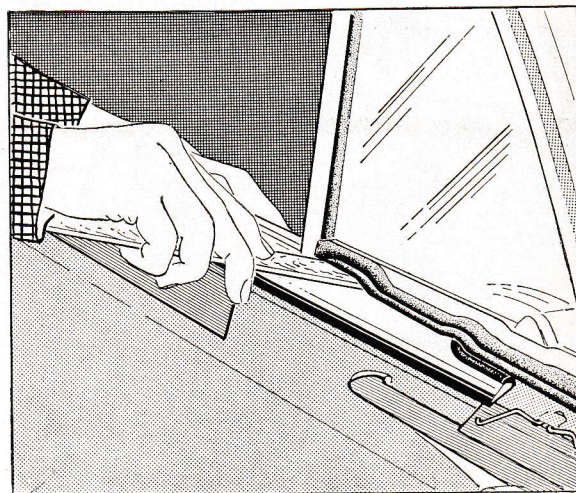

Fig. 39. Fitting the moulding.
4. The moulding is fitted by sliding it forward under the sealing rubber for the ventilation window, see Fig. 39. In order to facilitate this, the rubber under the ventilation window should be lubricated with vaseline.